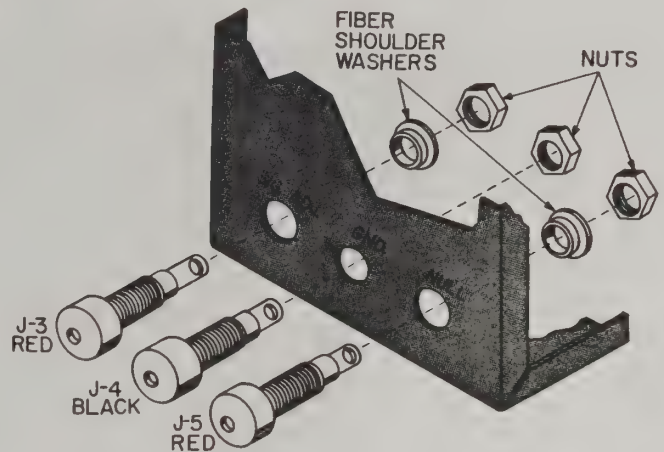

FIGURE 4. PIN JACK MOUNTING
- ☒ Mount J-3, one of the red pin jacks, in the hole marked SIG ADJ. Use a fiber shoulder washer and a nut to hold J-3 in place. See Figure 4.
- ☒ In a like manner, mount J-5, a red pin jack, in the hole marked NULL. See Figure 4.
- ☒ Mount J-4, the black pin jack, in the hole marked GND. DO NOT use a fiber shoulder washer. See Figure 4.